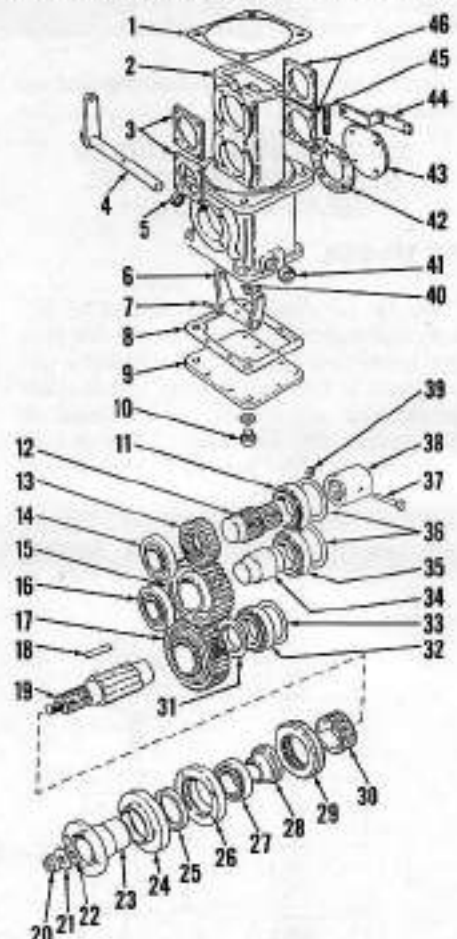

Fig. 30—Exploded view of transfer gear box used with David Brown front drive axle showing component parts and their relative positions.
35. **REMOVE AND REINSTALL.** Remove front drive shaft and drain transfer gear box and transmission, 42 L (44 qts.). Disconnect selector cable from selector shaft (4-Fig. 30). Remove left and right selector lever housings from transmission top cover and remove cover, wedge and shims. Remove bolt (37-Fig. 30) and locknut (39) and slide coupler (38) rearward. Remove cable bracket (44) and hydraulic pump inlet pipe connector. Place jack under transfer gear box, remove bolts and lower gear box to floor.
Laminated gasket (1-Fig. 30) must be the same thickness as original gasket (1), or layers peeled off to allow coupler (38) to freely slide onto input (12) and bevel pinion shafts. Tighten gear box mounting bolts to the following torque:
**36. OVERHAUL TRANSFER GEAR BOX.** With transfer gear box removed, disassemble as follows: Remove end plates (3 and 46—Fig. 30) and shims (36). Note position and thickness of shims (36). Drive input shaft (12) and idler shaft (34) out of housing (2). Remove input gear (13). Remove front bearing and cup (16). Remove output flange (23), cork seal (22) and washer (21). Remove oil seal housing (26) and output shaft end cover (43). Note thickness of shims (33). Drive output shaft (19) out of housing (2), remove the six bearing pads (18) and bearing and cup (27). Remove bottom cover (9) and drive roll pin (7) out of selector fork (6) and remove selector shaft (4). Remove selector fork, fixed gear (30) and sliding gear (29). Remove output gear (17) and idler gear (15). Remove selector shaft oil seal (5) and core plug (41).
**37.** Install idler gear (15—Fig. 30) into bottom of transfer gear box housing (2). Install output gear (17) into housing with hub for sliding gear engagement towards front of housing. Place fixed gear (30) inside sliding gear (29) and install output shaft (19) into rearward side of bottom hole in housing, pushing it through output gear (17) and partially through fixed gear (30). Oil slots on side of fixed gear (30) go against output gear (17). Spacer (31) and bearing (32) must already be assembled on output shaft (19). Install six bearing pads in output shaft, concave side against shaft, as it is pushed through output gear (17) and fixed gear (30). Install rear bearing cup (32), gasket (42), rear cover (43) and cable bracket (44) MINUS shims (33). Tighten bolts to 27 N·m (20 ft.-lbs.) torque. Install front bearing (27) and bushing (28) on output shaft and drive front bearing cup (27) into housing (2). Install oil seal (25) in oil seal housing (26) and install oil seal housing on transfer gear box housing. Tighten bolts to 27 N·m (20 ft.-lbs.) torque. Hit end of out-
To determine proper shim (33—Fig. 30) thickness add 0.050 mm (0.002 inch) to dial indicator measurement for new bearings and add 0.0762 mm (0.003 inch) to dial indicator measurement for used bearings. This results in a figure for correct shim (33) thickness.
Install oil seal (5—Fig. 30) into housing (2) and place trunnion pins (40) in selector fork (6). Install selector fork in housing, making certain trunnion pins engage slot in sliding gear (29). Install selector shaft (4) through oil seal (5) and selector fork. Align roll pin holes in selector fork and shaft and install roll pin (7). Install core plug (41), bottom cover gasket (8) and bottom cover (9). Install flange (23), cork washer (22), washer (21) and locknut (20). Tighten locknut to 190 N·m (140 ft.-lbs.) torque.
Install idler shaft (34—Fig. 30) and bearing assembly through rear of housing and drive it through idler gear (15). Install rear bearing cup (35) and end plate (46). Tighten bolts to 27 N·m (20 ft.-lbs.) torque. Drive front bearing (16) onto idler shaft (34) until seated. Install bearing cup (16) and end plate (3). Tighten bolts to 27 N·m (20 ft.-lbs.) torque and hit idler shaft (34) to seat bearings.
**38.** Mount dial indicator so end of probe contacts end of idler shaft (34). Measure and record amount of end play.
To determine correct shim (36—Fig. 30) thickness, add 0.050 mm (0.002 inch) to dial indicator measurement for new bearings and 0.0762 mm (0.003 inch) to dial indicator measurement for used bearings and install shims to this thickness.
Remove rear end plate (46—Fig. 30) and install correct shim (36) thickness. Reinstall end plate (46) and tighten bolts to 27 N·m (20 ft.-lbs.) torque.
**39.** Install input shaft (12—Fig. 30) and bearing assembly through front of